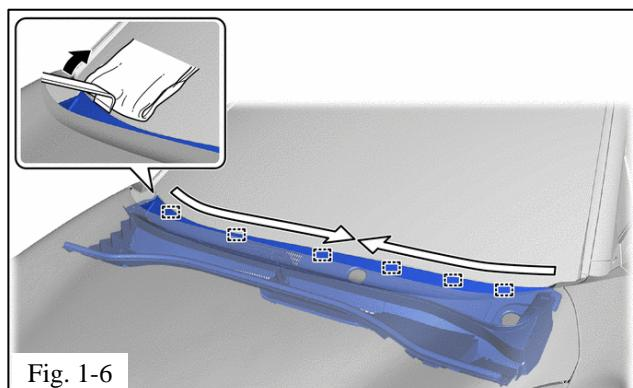

Fig. 1-6
(2) Close the hood sub-assembly.
(3) Using the molding remover D, disengage the cowl top ventilator louver sub-assembly from the windshield (Fig. 1-6).